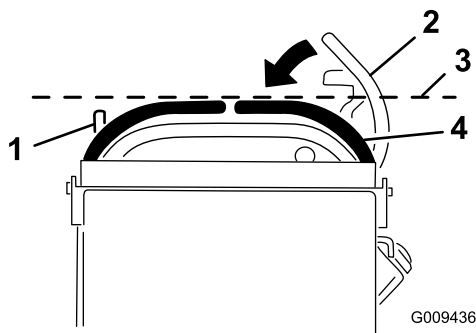

Figure 69
3. Push the motion-control levers down out of the NEUTRAL-LOCK position (Figure 69).
4. Check if the right motion-control lever aligns horizontally with the left motion-control lever (Figure 69).